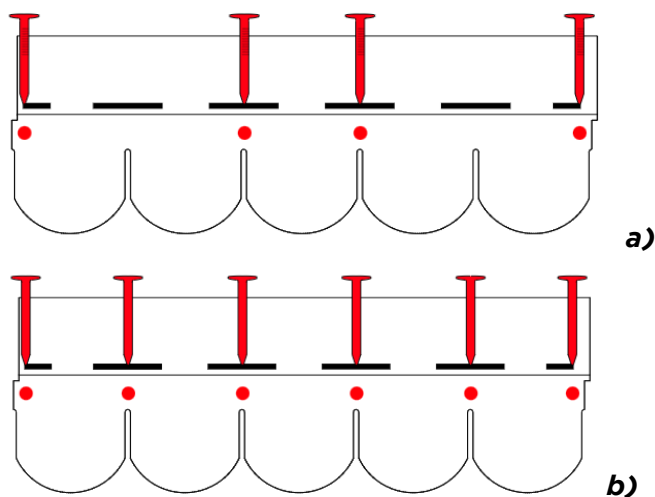

**Fig. 6** - Starting row preparation
- Arrange the shingles for the starting row cutting the tabs, as shown in Fig. 6;